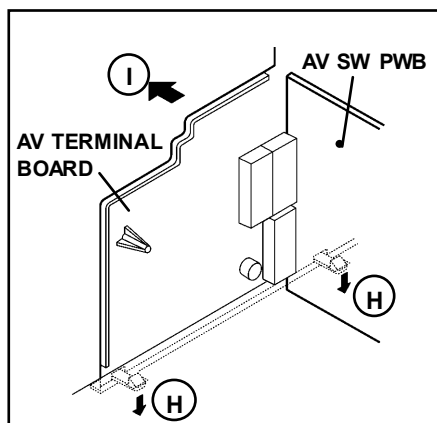

Fig. 3
2. Remove the 2 claws marked **H** under the CHASSIS as shown in Fig. 3.
3. Remove the AV TERMINAL BOARD slightly in the direction of arrow **I** as shown in Fig. 3.